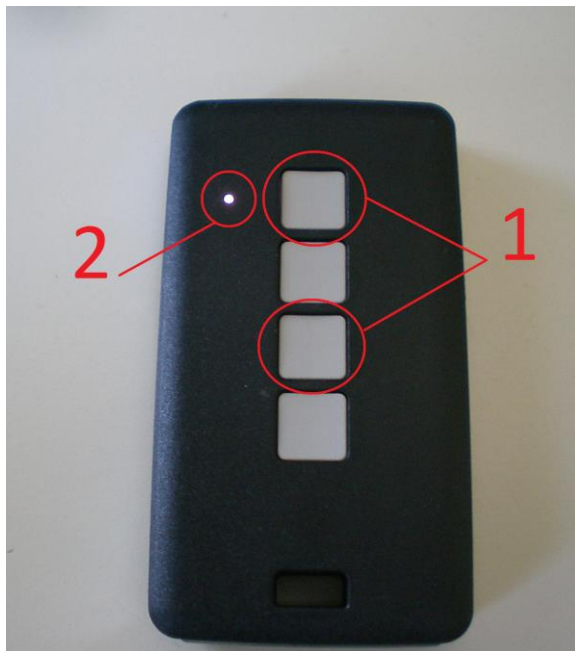

Figure 3 - Learning Procedure
1. Keep pushing the first and the third button of the RFT-868-4CH in order to set the device in learning mode (see Figure 3).
2. The RGB led will turn white for a while confirming the “Learning Status” (see Figure 3); till this time the RFTide Device which defines the network ID must send a `PROGR_MESSAGE` signal to the device. The message must contain the node address which will be assigned to the RFT-868-4CH (every number between 1 and 253 is valid).